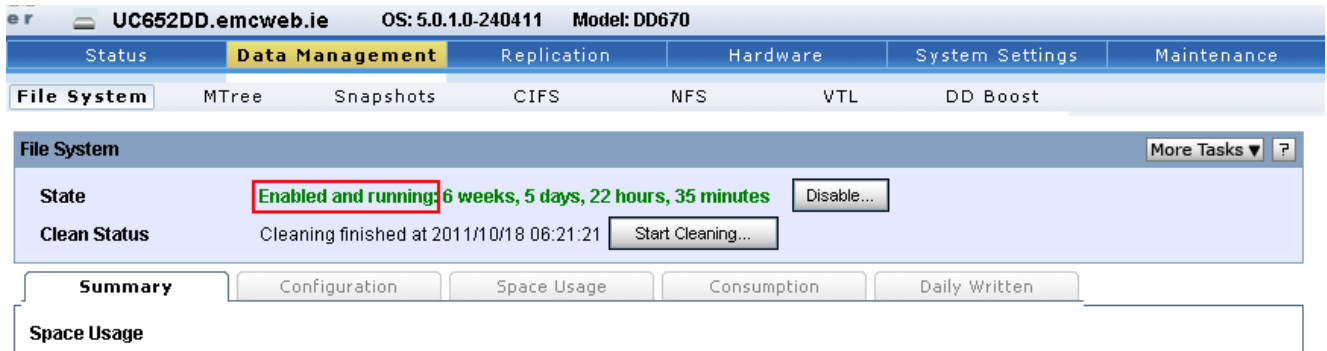
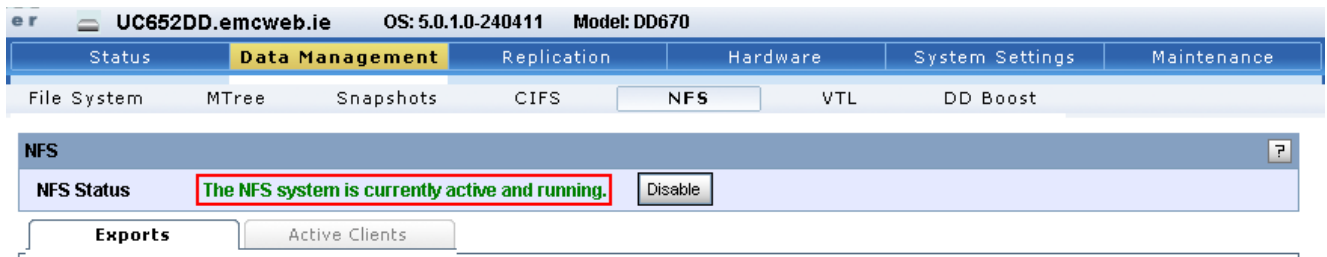

Figure 6. Data Domain File System service status
Figure 7. Data Domain NFS service status
3. Ensure that the Data Domain file systems and NFS services are enabled as shown in Figure 6 and Figure 7.